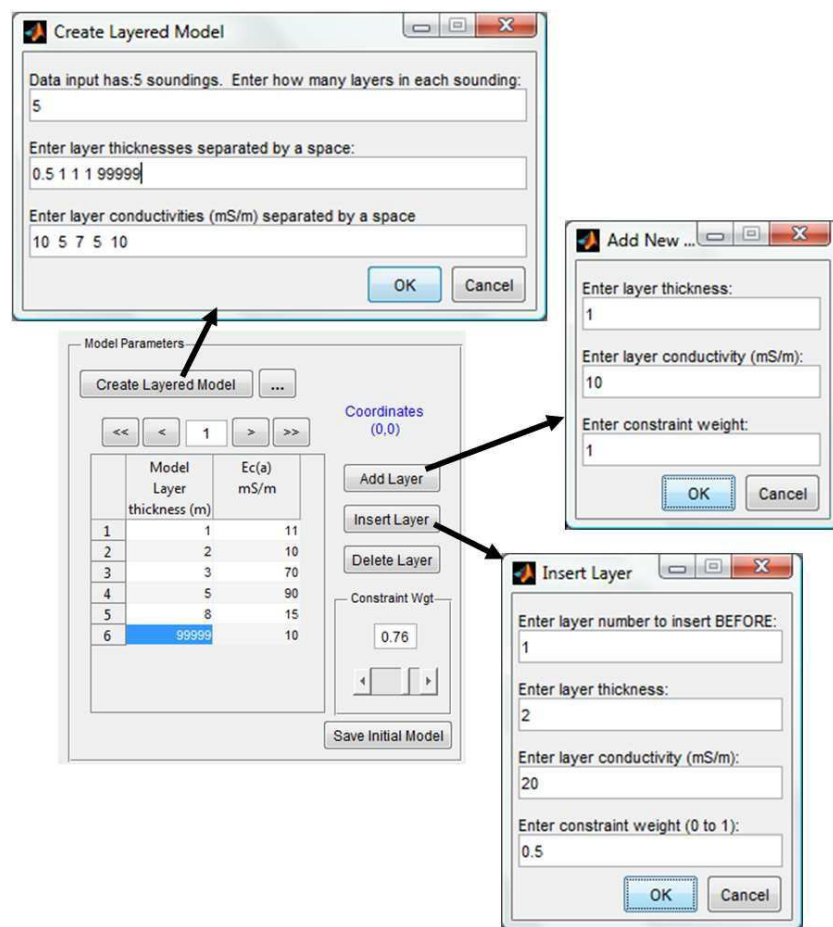

Figure 4: Initial model parameters panel.
3. Initial model parameters: This section allows the user to enter a reference model during the inversion as well as any available priori information. The user can simply click on “Create Layered model” to create a homogenous starting model for all soundings. The starting models for all soundings are automatically assigned constraint weights of 0 for each layer/conductivity value within each sounding. The constraint weight, which adjusts how the inverted model deviates from the reference model, varies from 0 to 1. A value of ‘0’ means no constraint, whereas a value of ‘1’ indicates that the reference values will be hard constraint during the inversion. The user can modify the reference model and constraint weights of any soundings simply by clicking on ‘Add layers’ or insert layers as shown in Figure 4.